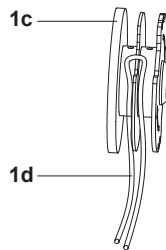

Fig. 58
5. Double the trimmer line (1 d) back and lead the loop through the slot of the trimming spool (1c) and hook it (Fig. 58).